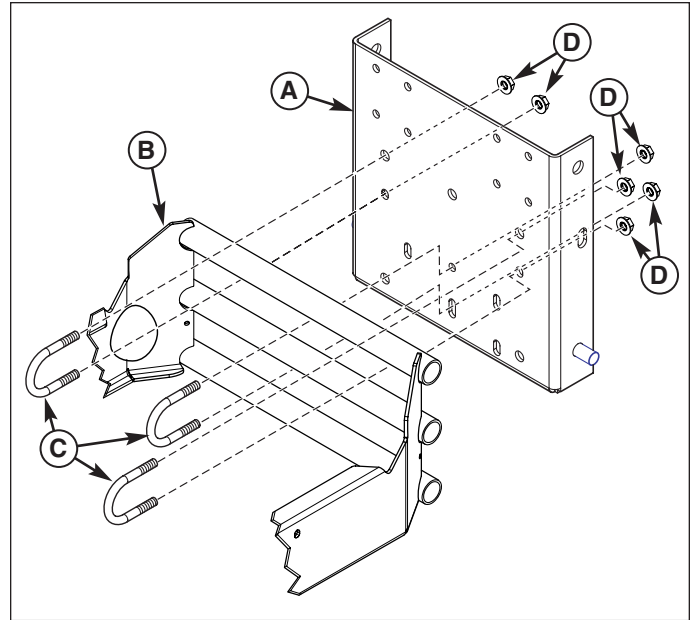

Figure 2. Install Hitch Plate (Tube Style Bumper)
1. Center the and secure hitch plate (A, Figure 2) to the bumper (B) with u-bolts (C) and 3/8-16 locknuts (D) as shown.